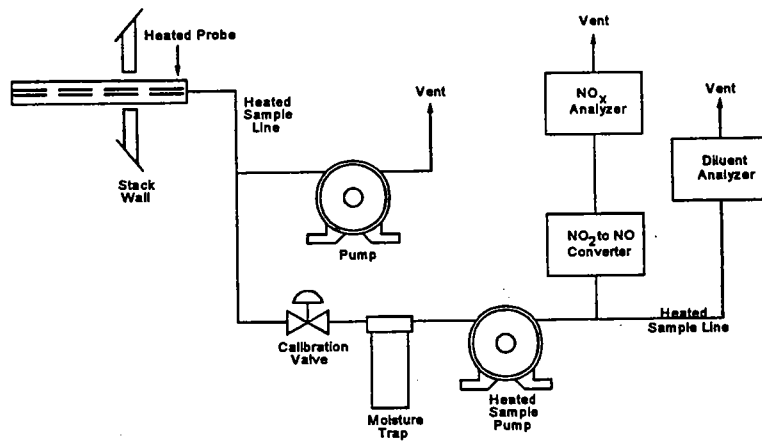

Figure F20-1. Measurement System Design.
1. Prepare the system and set up the measurement system. An example of an acceptable system is shown in Figure F20-1.